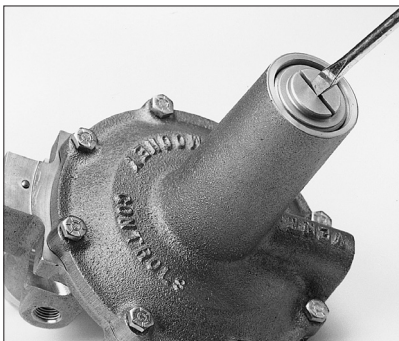

Figure 20
4. Remove top Cover from the spring barrel of the pilot and release spring tension by unscrewing the Spring Adjuster (refer to Figure 20).